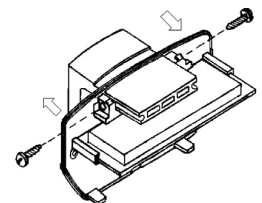

Figure 3
9.2 Loosen the screws, providing fixation of the base and remove it from the swivel bracket (Figure 3).
Fix the base on the swivel bracket by means of tap screws (See Figure 3).